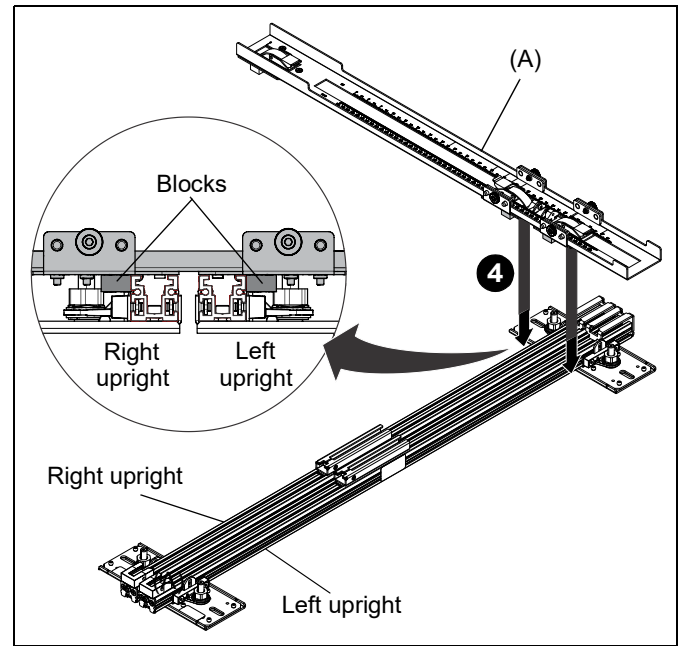

Figure 3
4. Place the spacer tool (A) over one left upright and one right upright. Slide the spacer tool up towards the top of the uprights until it stops against the mounting flanges. Position the uprights so that they are flush against the blocks on the underside of the spacer tool. (See Figure 3)